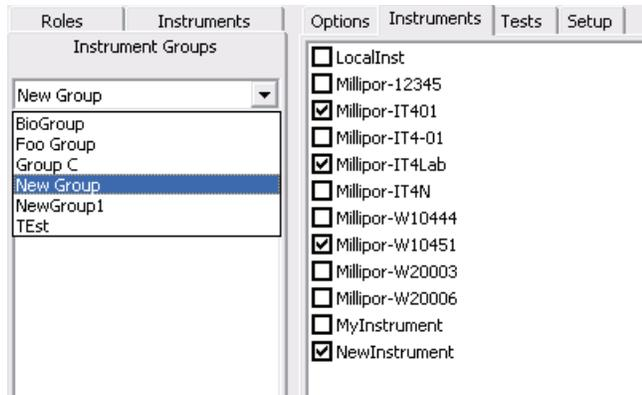

Figure 14: Instruments in Instrument Group
1. Select the group from the drop-down list on the **Instrument Groups** tab (Figure 14).